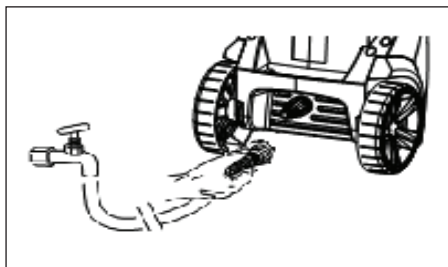

Figure 13 - Attach garden hose to unit (models PW1625 and PW1825)
4. Attach garden hose to unit (see Figure 13 and 15).
9. Attach garden hose to unit (see Figure 13 and 15).